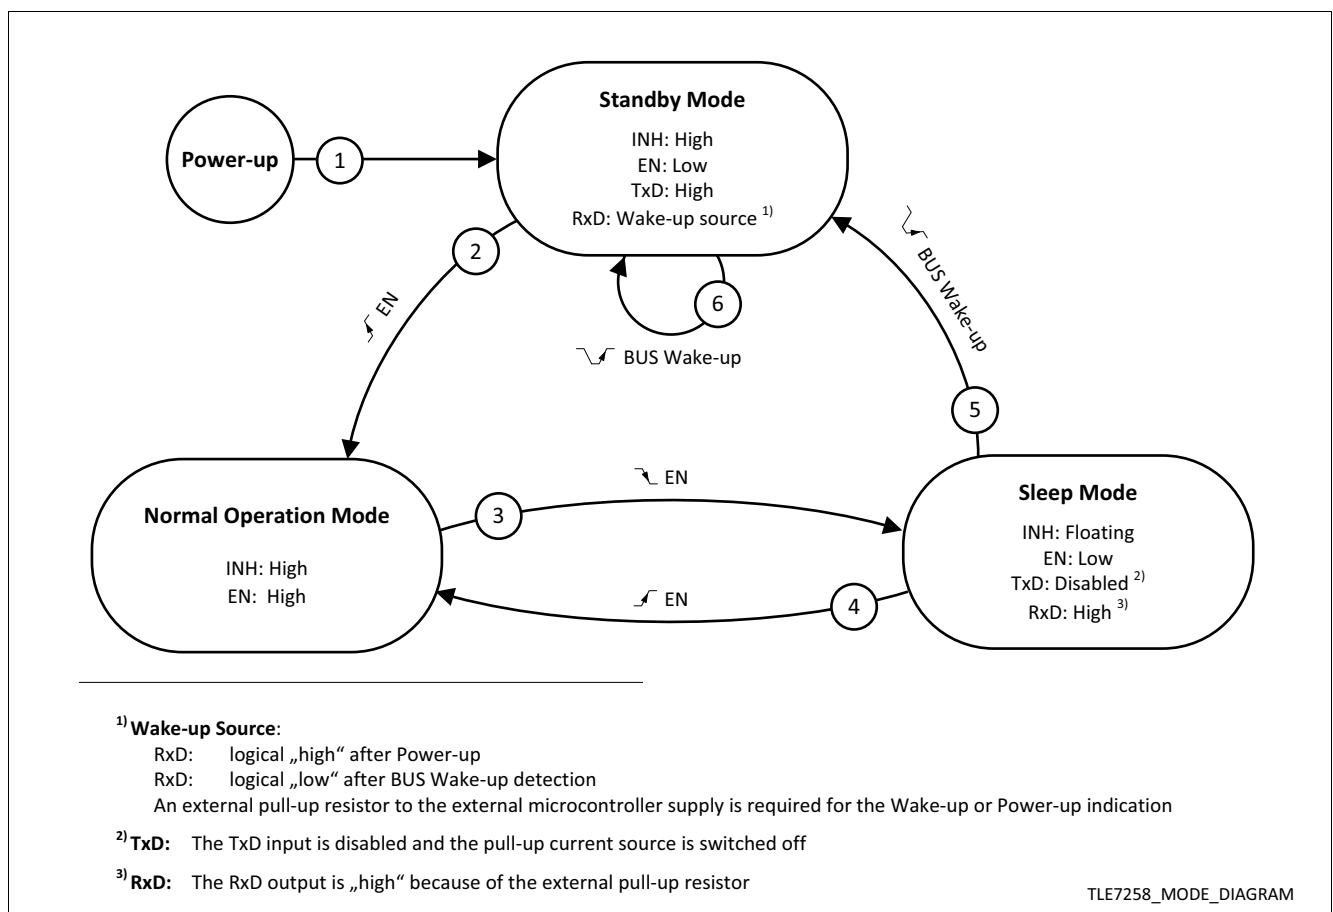
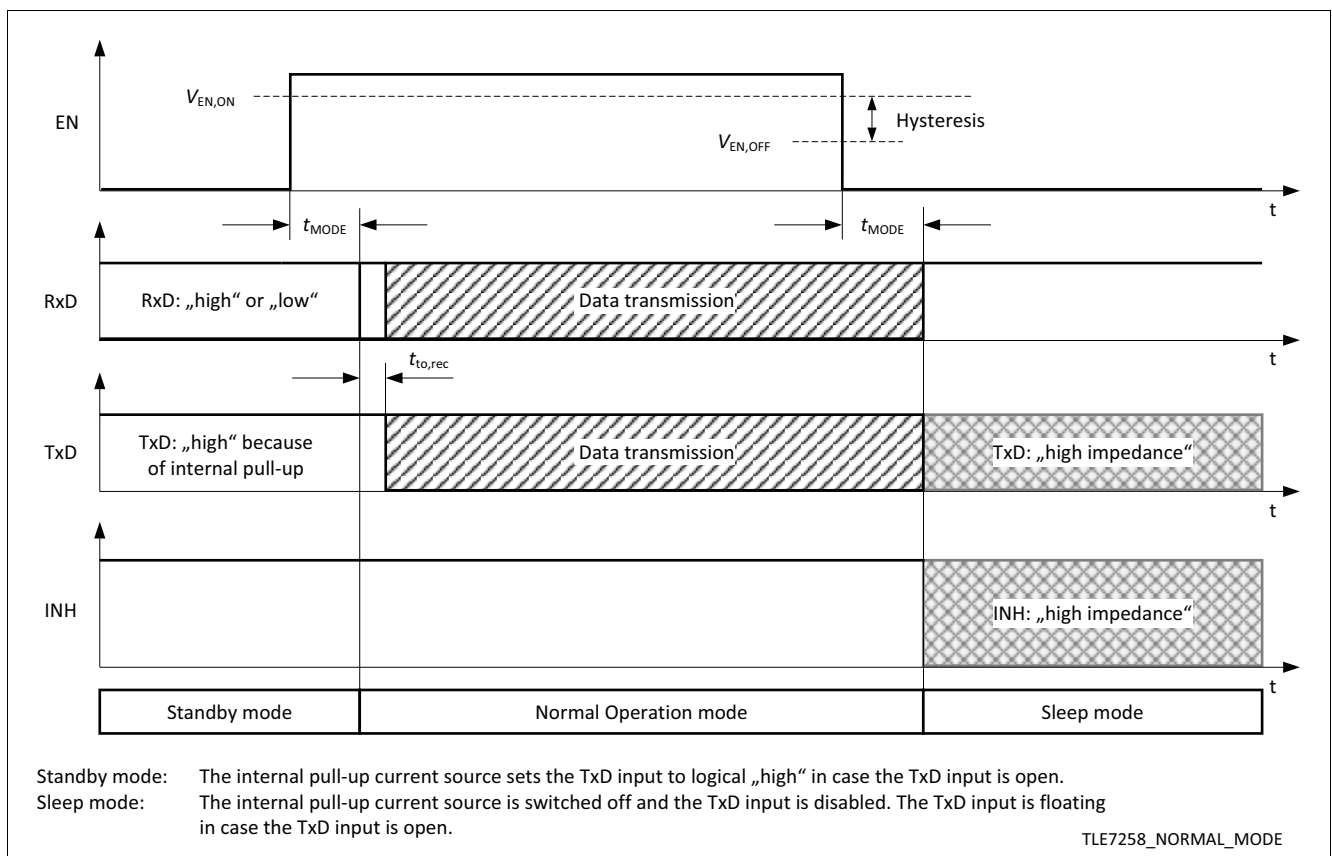
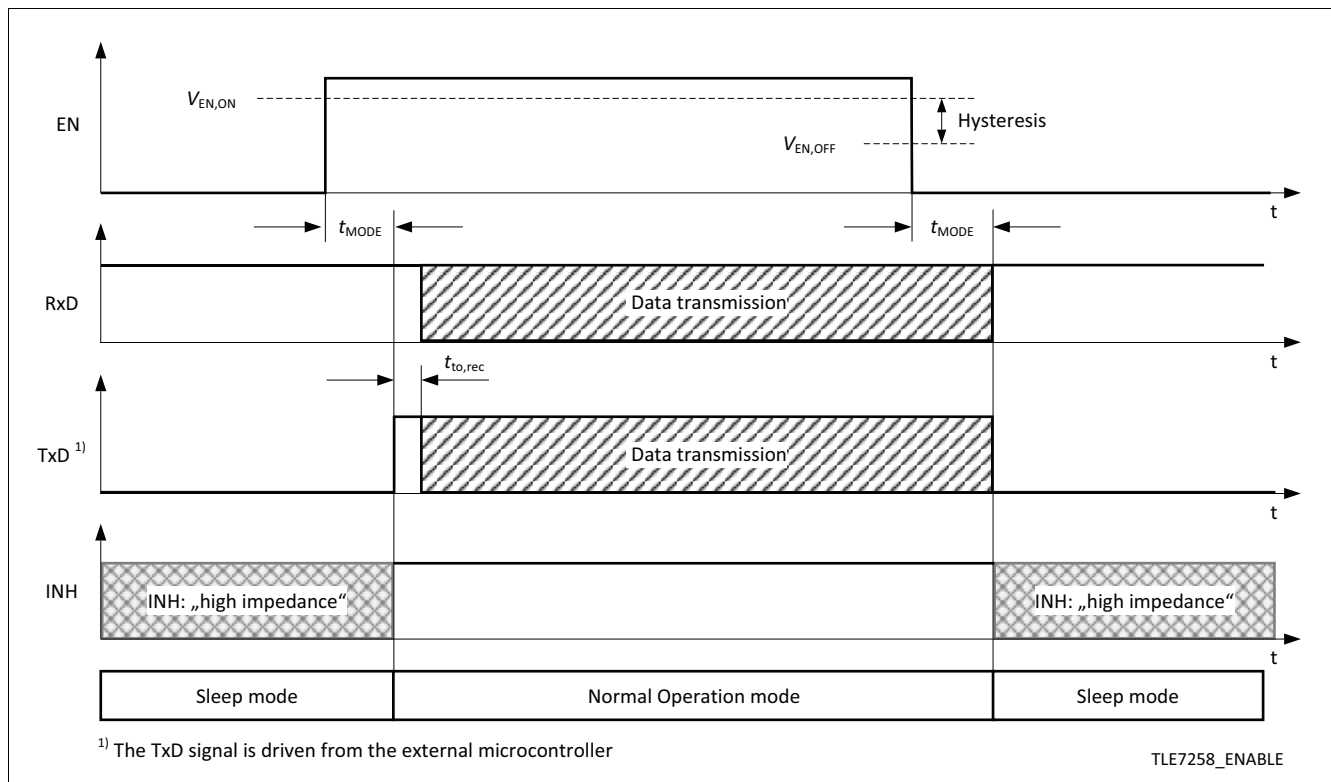

Figure 4 Operation mode state diagram
Figure 5 Entering normal operation mode from standby mode
Figure 9 Entering normal operation mode from sleep mode
The TLE7258 has 3 major operation modes (see **Figure 4**):
Normal operation mode can be entered from either sleep mode (see Figure 9) or from standby mode (see Figure 5), by setting the EN input to logical “high”. From normal operation mode the TLE7258 can only enter sleep mode, it is not possible to enter standby mode directly (see Figure 4).
After a mode change to normal operation the TLE7258 requires a logical “high” signal for the time $t_{to,rec}$ on the TxD input before releasing the data communication (see Figure 5). The transmitter remains deactivated as long as the signal on the TxD input remains logical “low”, preventing possible bus communication disturbance.
- The RxD output indicates either a wake-up event or a power-up event (see Figure 4 and Table 1).
- The EN input is active. A “high” signal on the EN input triggers a transition to normal operation mode (see Figure 5).
To switch the TLE7258 from normal operation mode to sleep mode, the EN input has to be set to “low”. Conversely a logical “high” signal on the EN input sets the device directly back to normal operation mode (see Figure 4). The TLE7258 can only enter sleep mode from normal operation mode.
The EN input is used for operation mode control of the TLE7258. By setting the EN input logical “high” for the time t_{MODE} while being sleep or standby mode, a transition to normal operation mode will be triggered (see Figure 9). The EN input has an integrated pull-down resistor to ensure the device remains in sleep or standby mode even if the EN pin is left open. The EN input has an integrated hysteresis.
A signal transition from logical “high” to “low” on the EN input changes the operation mode from normal operation mode to sleep mode (see Figure 5).